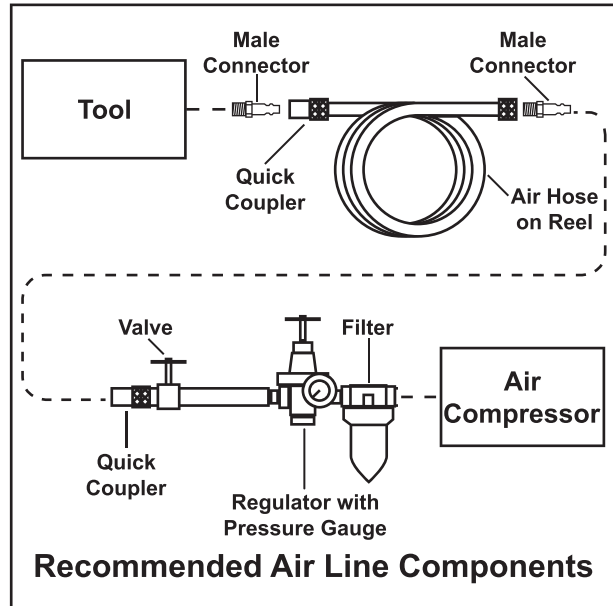

Fig.1
10. For recommended air source and automatic oiler hook-up, refer to Fig. 1.